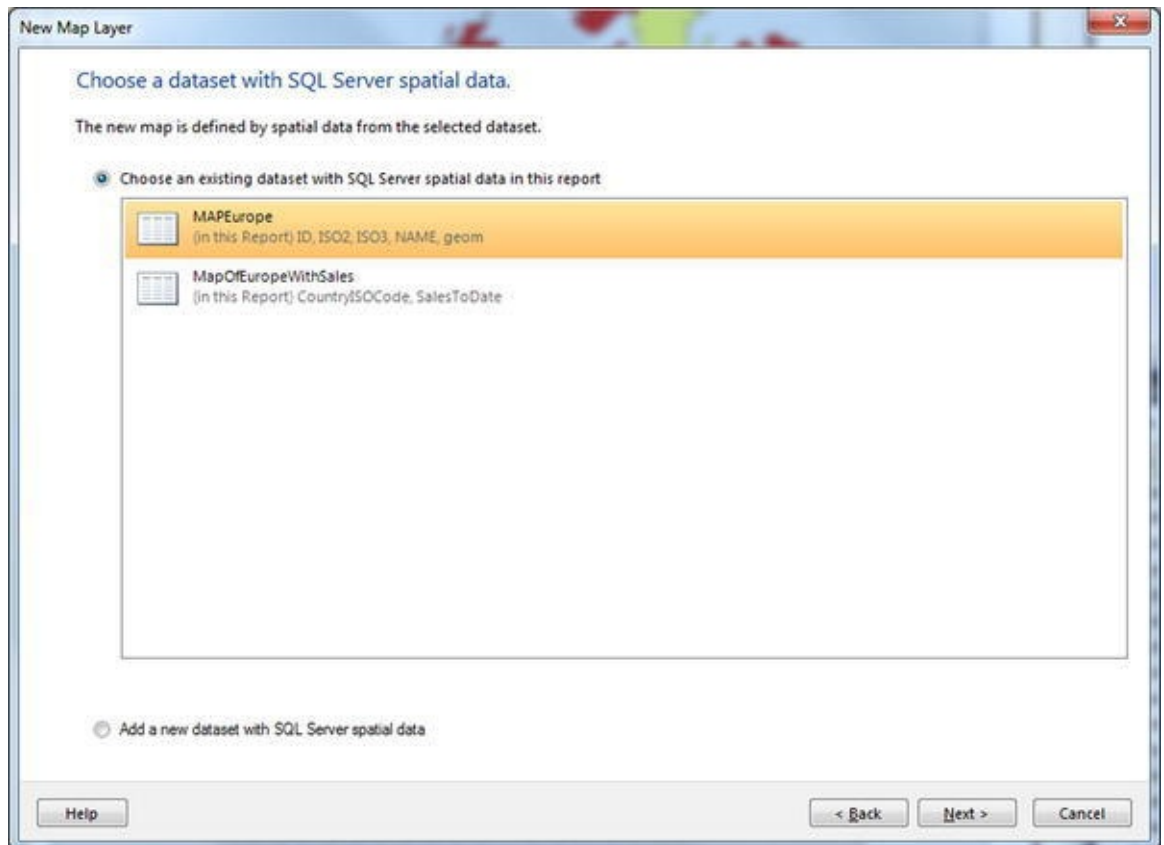

Figure 5-13. The Choose dataset with SQL Server spatial data pane
7. Click the dataset that you created earlier named MapEurope. This dialog will look like Figure 5-13.